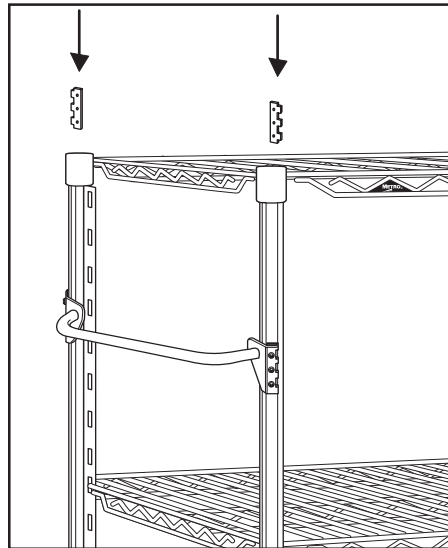
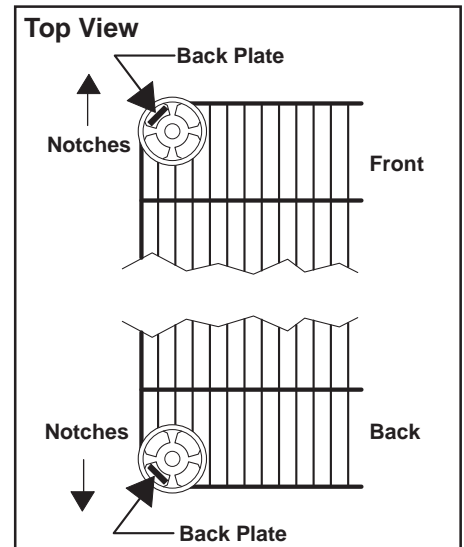

Fig. 1
Fig. 2
3. When installing the handle on an open unit, top of posts must be clear so back plates are allowed to slide into channel of posts. See Fig. 1. Remove black post caps. Install back plates making sure notches are facing outward. See Fig. 2.